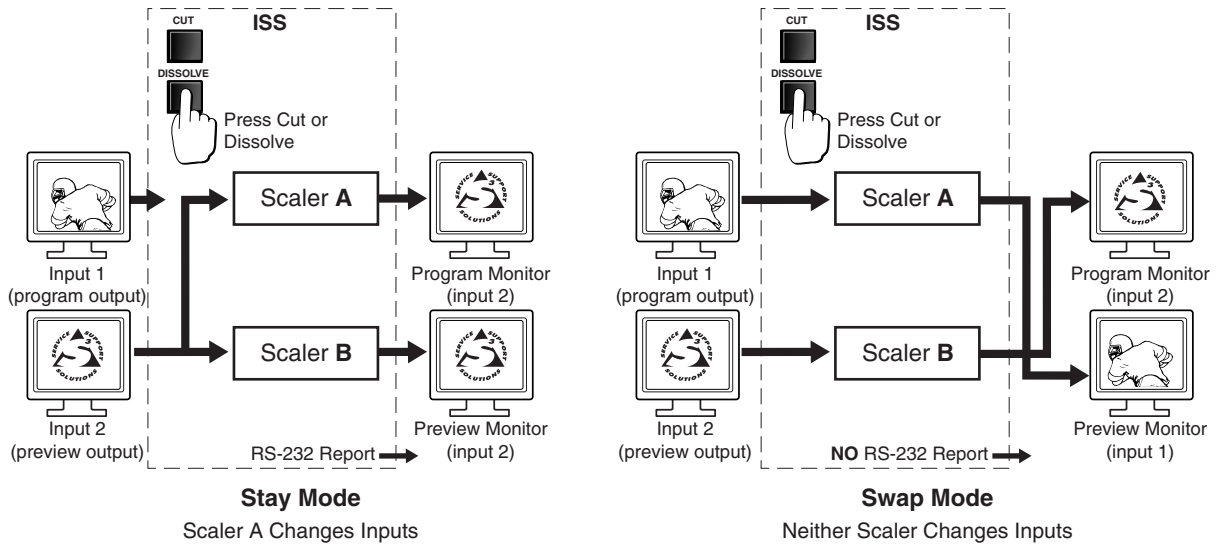

Figure 3-14 — Stay mode and swap mode
- **Stay mode** — When you initiate either a cut or dissolve operation, the video and audio signals on the preview output are applied to the program output (figure 3-14) and also continue to be applied to the preview output until another input is selected.
- **Swap mode** — When you initiate either a cut or dissolve operation, the preview and program outputs are swapped (figure 3-14). The video and audio signals on the preview output are applied to the program output. The video and audio signals that had been applied to the program output are applied to the preview output.